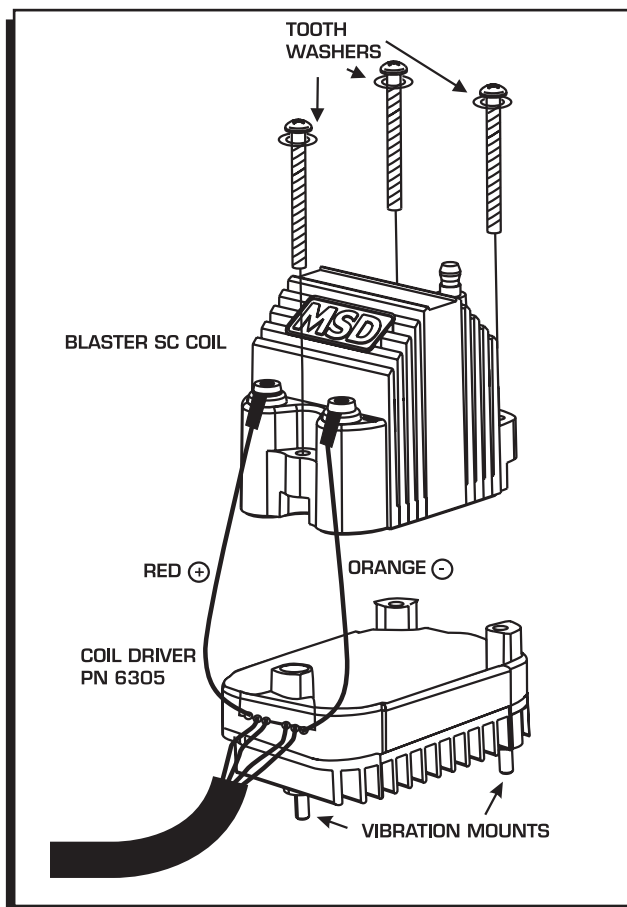

Figure 2 Assemble the Coil and Driver.
1. Position the Coil Driver, PN 6305, under the Blaster SC Coil with the aluminum base facing down (Figure 2).